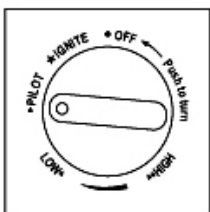

Figure 11b – Control knob in PILOT position
- 3) Push in gas Control Knob and turn counterclockwise to "IGNITE" then to "PILOT" (Figure 11b) to light the pilot. If needed, keep depressing and turning Control Knob counterclockwise until the pilot lights (You should hear 2 clicking sounds).